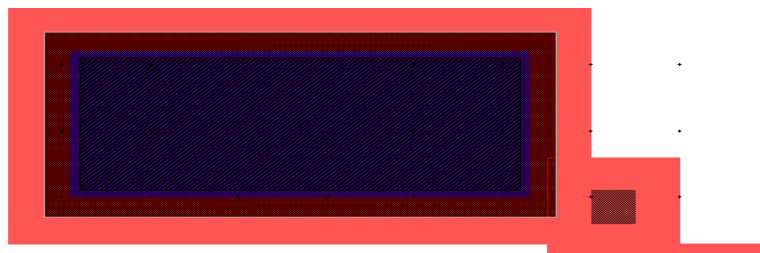

Figure 145: Preparing the Creation of BC Tags.
- Zoom in to the top anchor as shown in (Figure 145).